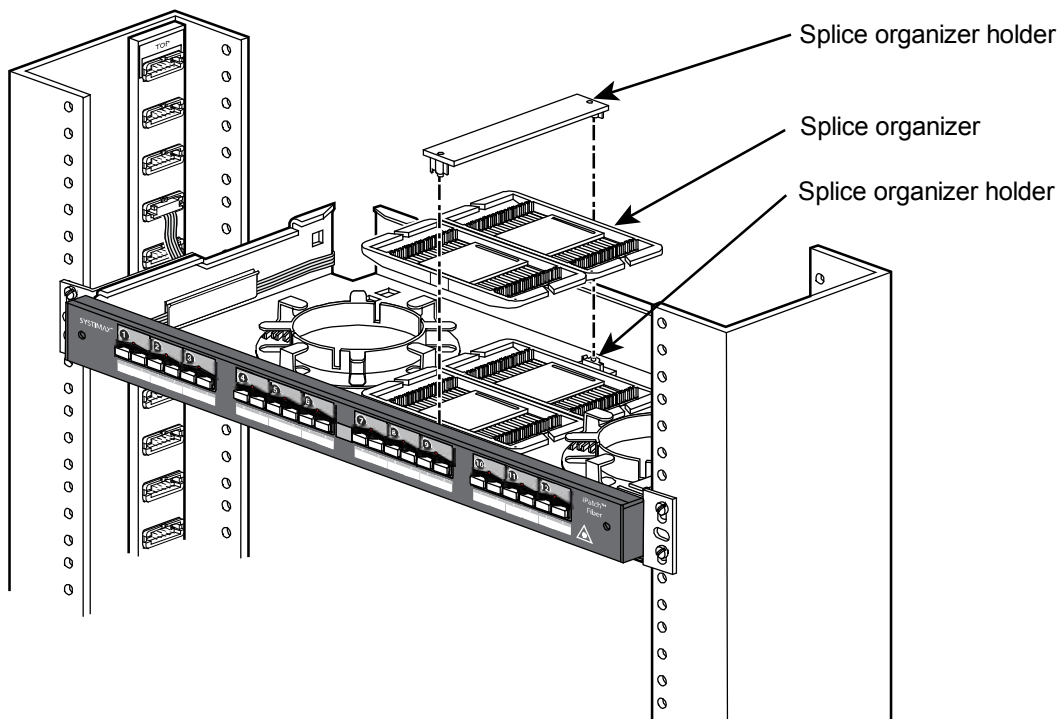

Figure 5 Installing Mass Fusion Splice Organizers Using Holders
3. Affix the two splice organizers to the shelf approximately in the position shown in Figure 5 on page 6.
4. Affix the holder and splice organizers to the shelf approximately in the position shown in Figure 5.
5. After you have finished splicing the fiber optic cable, stack the four splice organizers as shown in Figure 5.
6. Install the second splice organizer holder (provided with the shelf) as shown in Figure 5 so that it attaches to the bottom holder and secures the splice organizers.